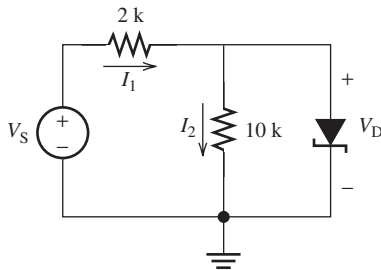

FIGURE P8.24 Circuit of the Zener diode.
- 8.24** (A) Given that $V_Z = 5.5$ V, find I_1 and I_2 in the circuit shown in Figure P8.24 when: